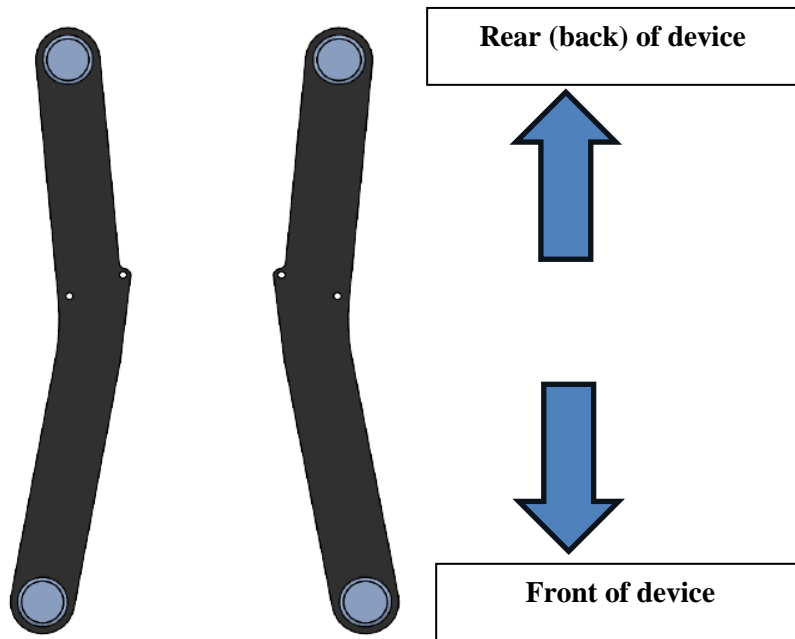

Figure 1: Feet
- b. Feet (2) - found in the top and bottom foam shock absorbers or taped to the inside of cardboard crate: see *Figure 1: Feet*.